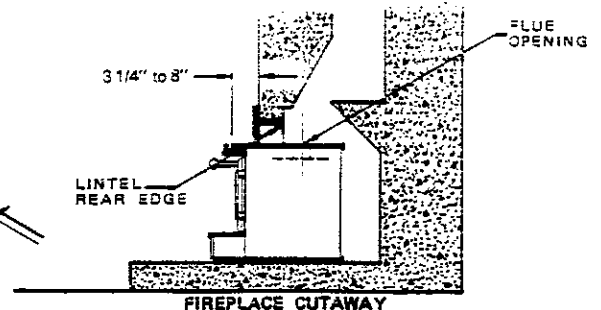

FIG. 13
IMPORTANT: (Fig. 13)
After the fireplace hearth has been leveled, the Fireplace Insert should be slid into position. Carefully check to see that the flue opening in the Fireplace Insert is unobstructed and that the smoke leaving the Insert can rise directly into the fireplace chimney. (See Fig. 13).
1. Slide the Fireplace Insert into the fireplace to the depth desired within the limits of installation. (See Fig. 13).